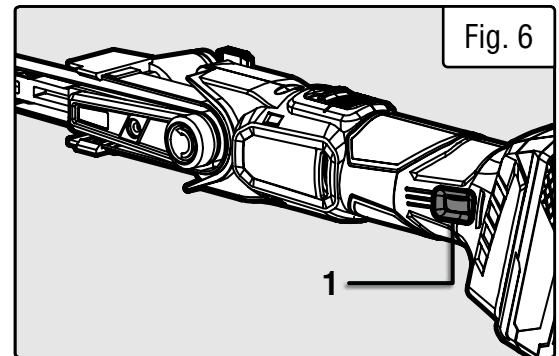

Fig. 6
2. Adjust the sanding belt speed by turning the speed dial (Fig. 6 - 1) to the required speed. Do this before contacting the work surface to avoid varied finishes on the final project.